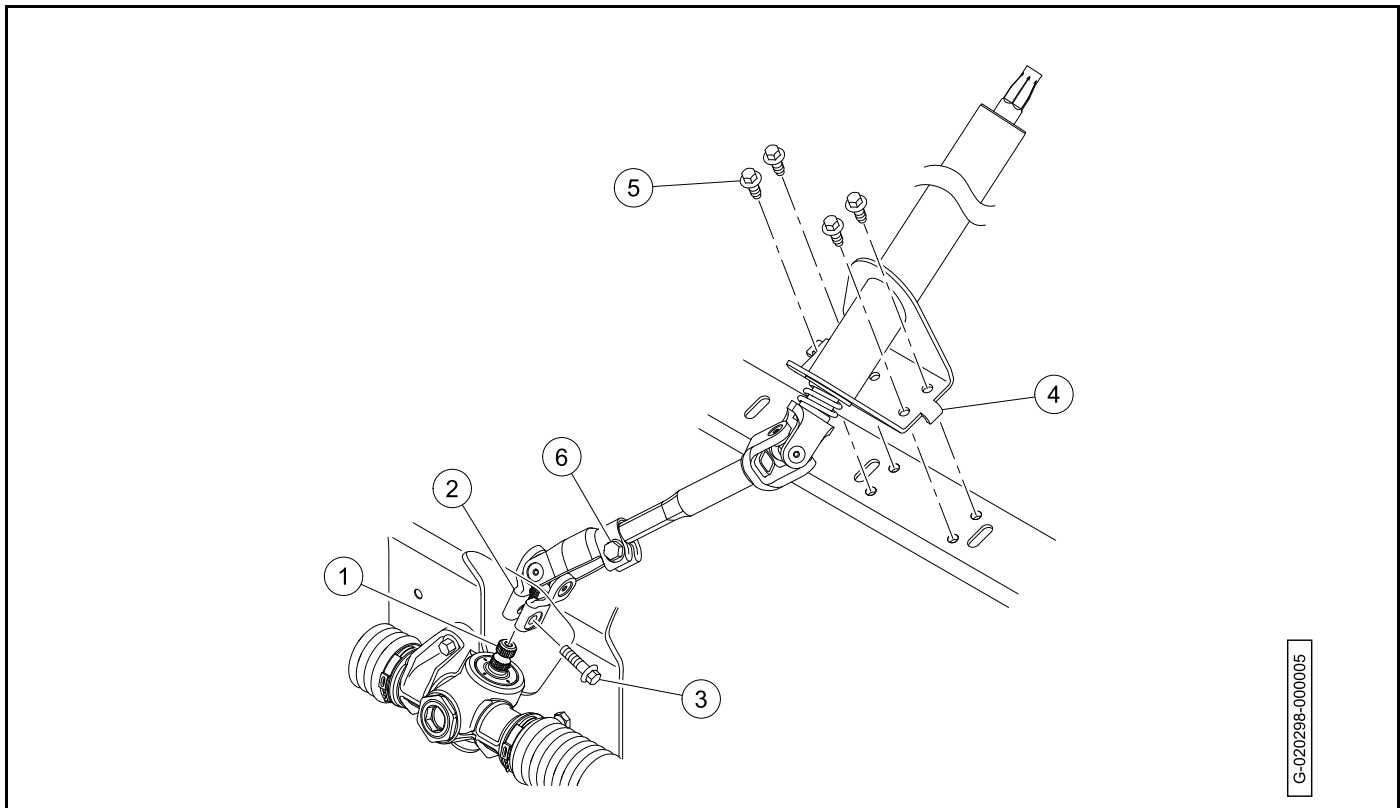

Figure 7-4 Steering Column Installation
1. Apply a light coat of anti-seize or lubricating compound to the pinion shaft (1) (**Figure 7-4**).
2. Install the universal joint (2) onto pinion shaft.
3. Install the bolt (3) and tighten by hand. Do not fully tighten the bolt.
4. Install the steering column mounting bracket (4) on the vehicle frame.
5. Install the bolts (5). Tighten the bolts to 18.4 lb·ft (25 N·m).
6. Tighten the bolt (3) to 18.4 lb·ft (25 N·m).
7. Make sure that the upper universal joint bolt (6) is tighten to 18.4 lb·ft (25 N·m).